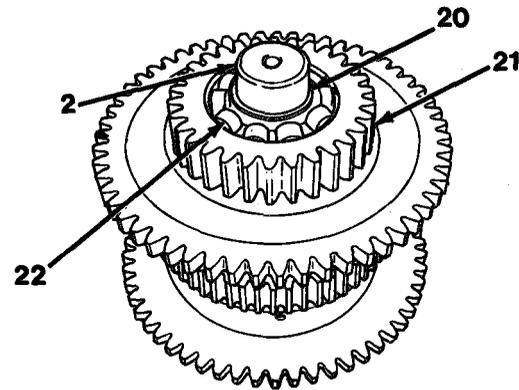
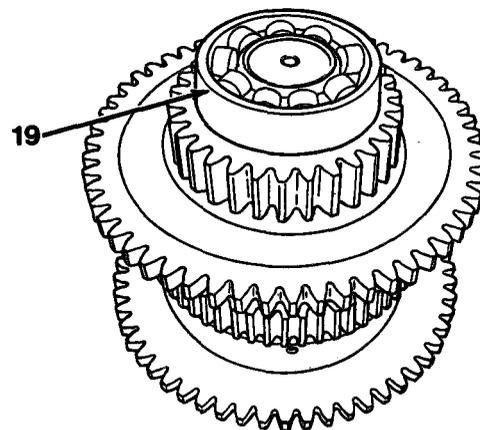

Figure 11-7
Figure 11-6
14. Install remaining bearing (22) into gear and hub welded assembly (21, Figure 11-7).
15. Install snap ring (20) on clutch shaft assembly (2).
16. Install bearing (19) on clutch shaft assembly (2, Figure 11-6).